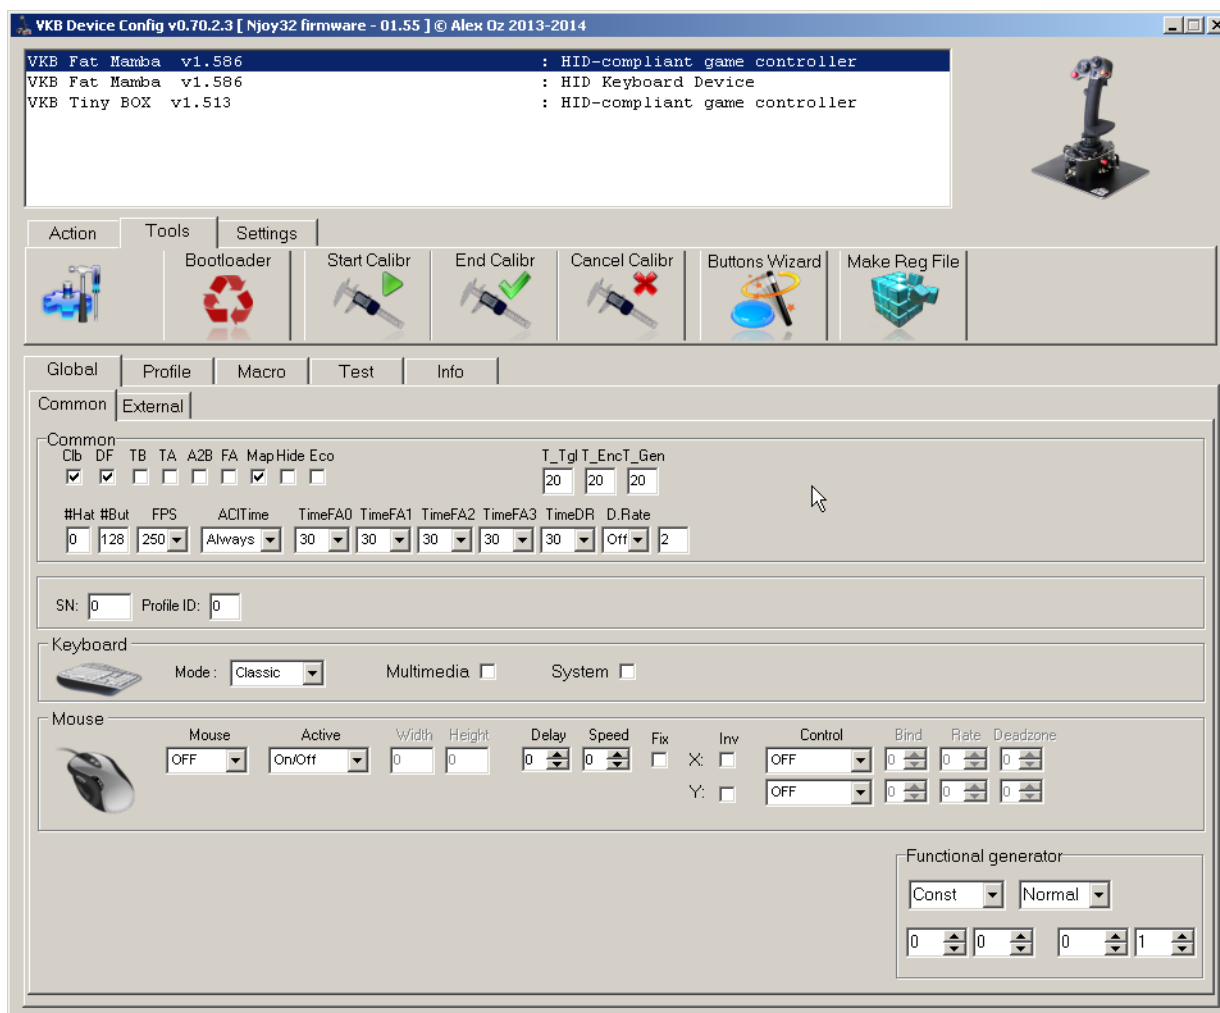

Fig. 1.1.
After you run configurator you will see its window (fig. 1.1). Title bar contains version of the program.
2. Run *VKBDevCfg-C.exe*, select joystick name in the list (fig. 1.1 на с. 6).